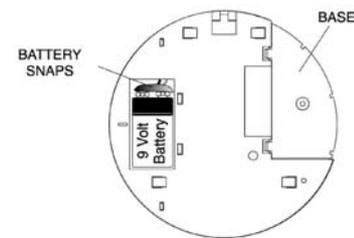

Figure B- 19: Attaching a 9V Battery to the Battery Snap
2. Connect a 9V battery to the battery snaps as shown in Figure B- 19. When the battery is first connected the Alarm may sound for 2-3 seconds and/or the red light may flash quickly for 10 seconds – this is normal.